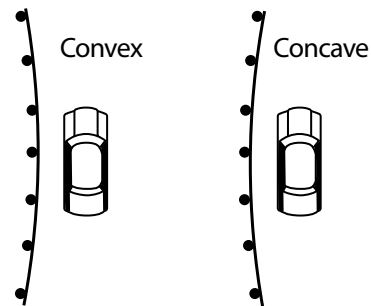

Figure 6
5. Determine the curvature orientation from Figure 6